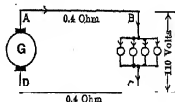

Fig. 56. Voltage at generator must be higher than at lamps on account of voltage drop in line.
**Example 1.** In a lighting system, as shown in Fig. 56, each lamp takes  $\frac{1}{2}$  ampere at 110 volts. We wish to find the voltage which the generator must deliver in order to force the current through the line wires and still have 110 volts left to force the current through the lamps.